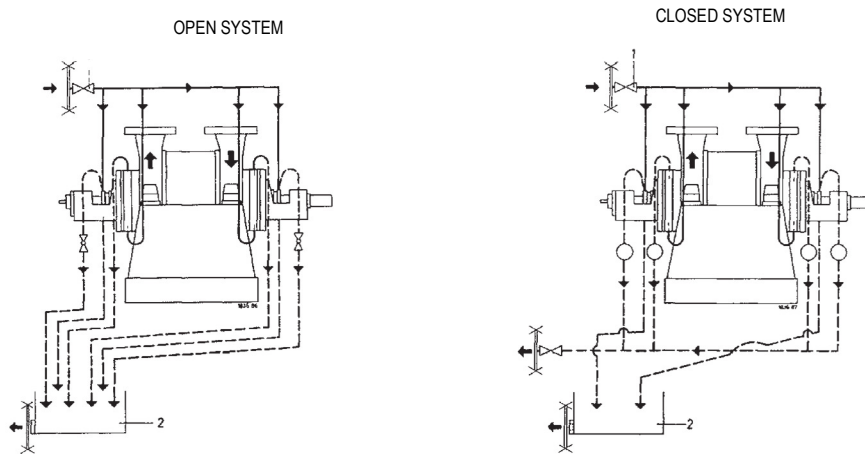

Figure 37
10.7.2.4 For ambient temperature > 45 °C and a pumped medium temperature > 150°C and up to 180°C an additional cooling of bearing housings is required (see figure 37).